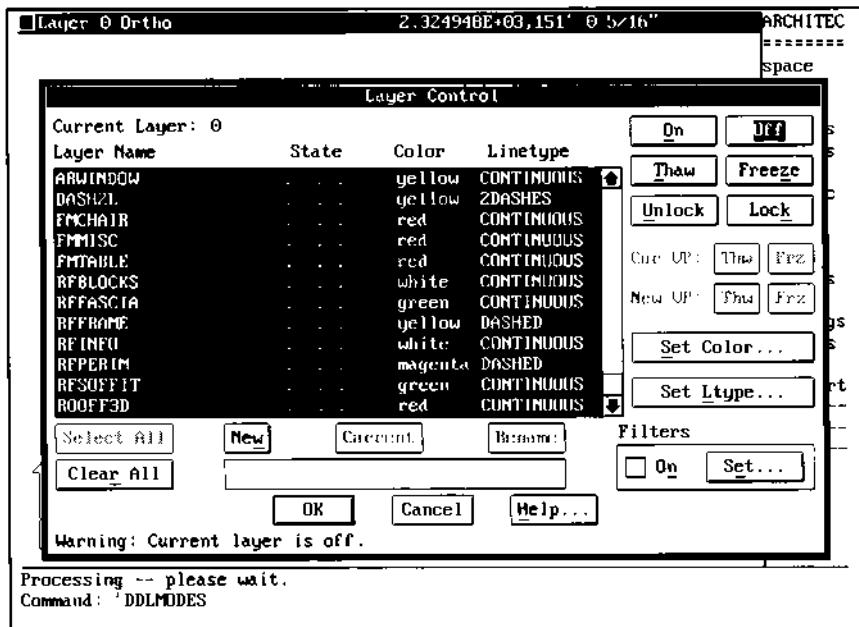

Figure 4.
2. Choose the Select All pick box to highlight all the layers, then select the Off pick box to turn all the highlighted layers off similar to Figure 4.